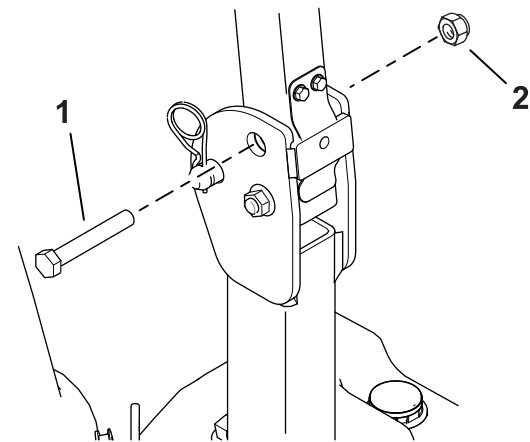

Figure 3
5. Install the bolt (3/4 x 4 inches) into the top hole of the roll bar and secure it finger tight with a nut (3/4 inch). Refer to (Figure 3).